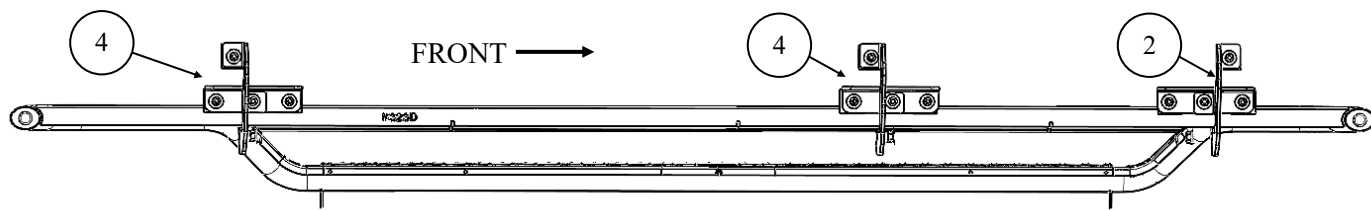

Figure 5
6. Repeat **Steps 2-5** on the passenger side. **Note:** See **Figures 5 & 6** for the correct bracket orientation.